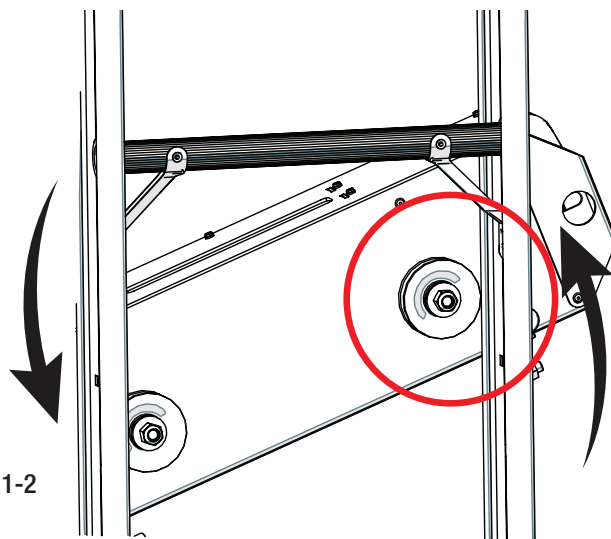

Fig. 11-2
- Lower the power box down between the sides of the track aligning the guide wheels with the side of the tracks as shown in Fig 11.2.